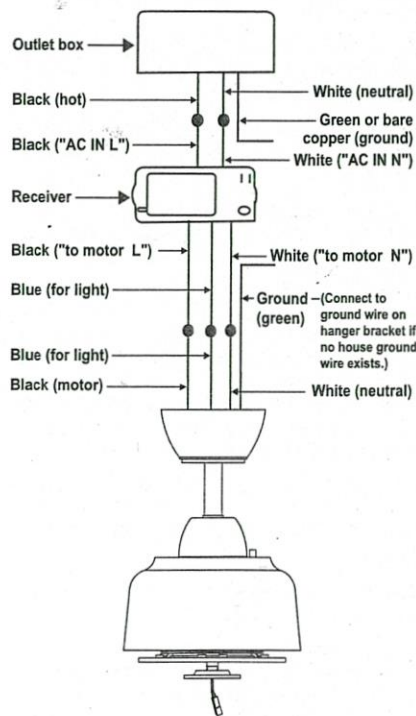

Figure 11
Step 2. (Fig. 11) Motor to receiver electrical connections: Connect the black wire from the fan to black wire marked "TO MOTOR L". Connect the white wire from the fan to the white wire marked "TO MOTOR N" from the receiver. Connect the blue wire from the fan to the blue wire marked "For bottom Light" from the receiver. Secure wire connections with the plastic wire nuts provided.
Step 3. (Fig. 11) Receiver to House Supply Wires Electrical Connections: Connect the black (hot) wire from the ceiling to the black wire marked "AC in L" from the receiver. Connect the white (neutral) wire from the ceiling to the white wire marked "AC in N" from the Receiver. Secure the wire connections with the plastic wire nuts provided.
Step 4. (Fig. 11) If your outlet box has a ground wire (green or bare copper) connect it to the fan ground wires; otherwise connect the hanging bracket ground wire to the mounting bracket. Secure the wire connection with a plastic wire nut provided. After connecting the wires, spread them apart so that the green and white wires are on one side of the outlet box and black and blue wires are on the other side. Carefully tuck the wire connections up into the outlet box.